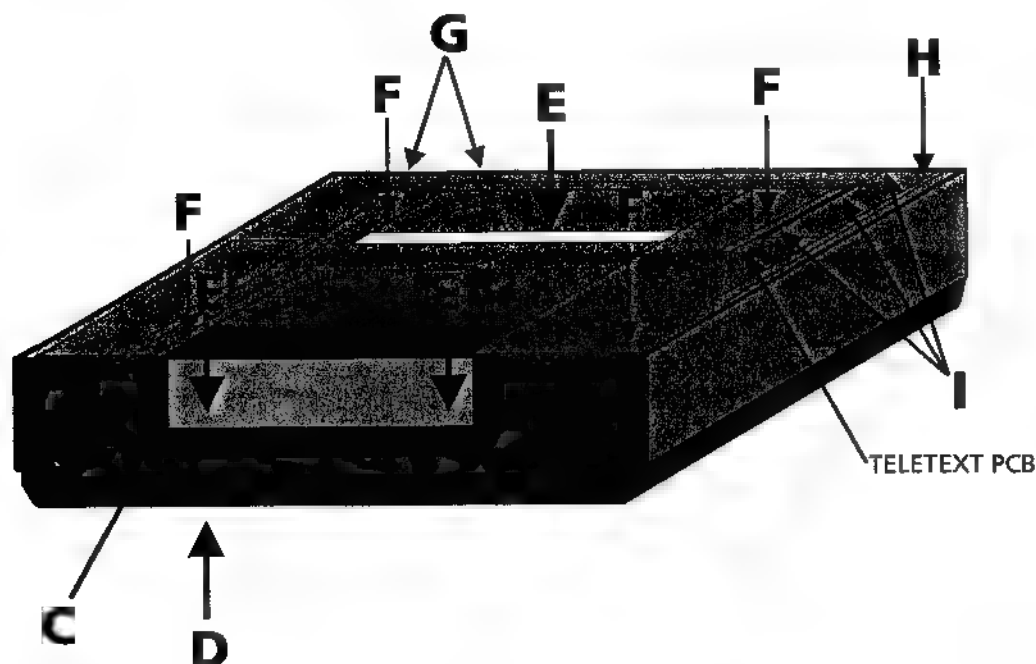

Fig. 3
4. Main chassis with tape deck (fig. 3)
4. Hauptaufbauplate mit Cassettendeck (Abb. 3)
4. Châssis principal et platine (fig. 3)
5. Tape deck (fig. 3)
5. Cassettendeck (Abb. 3)
5. Platine (fig. 3)